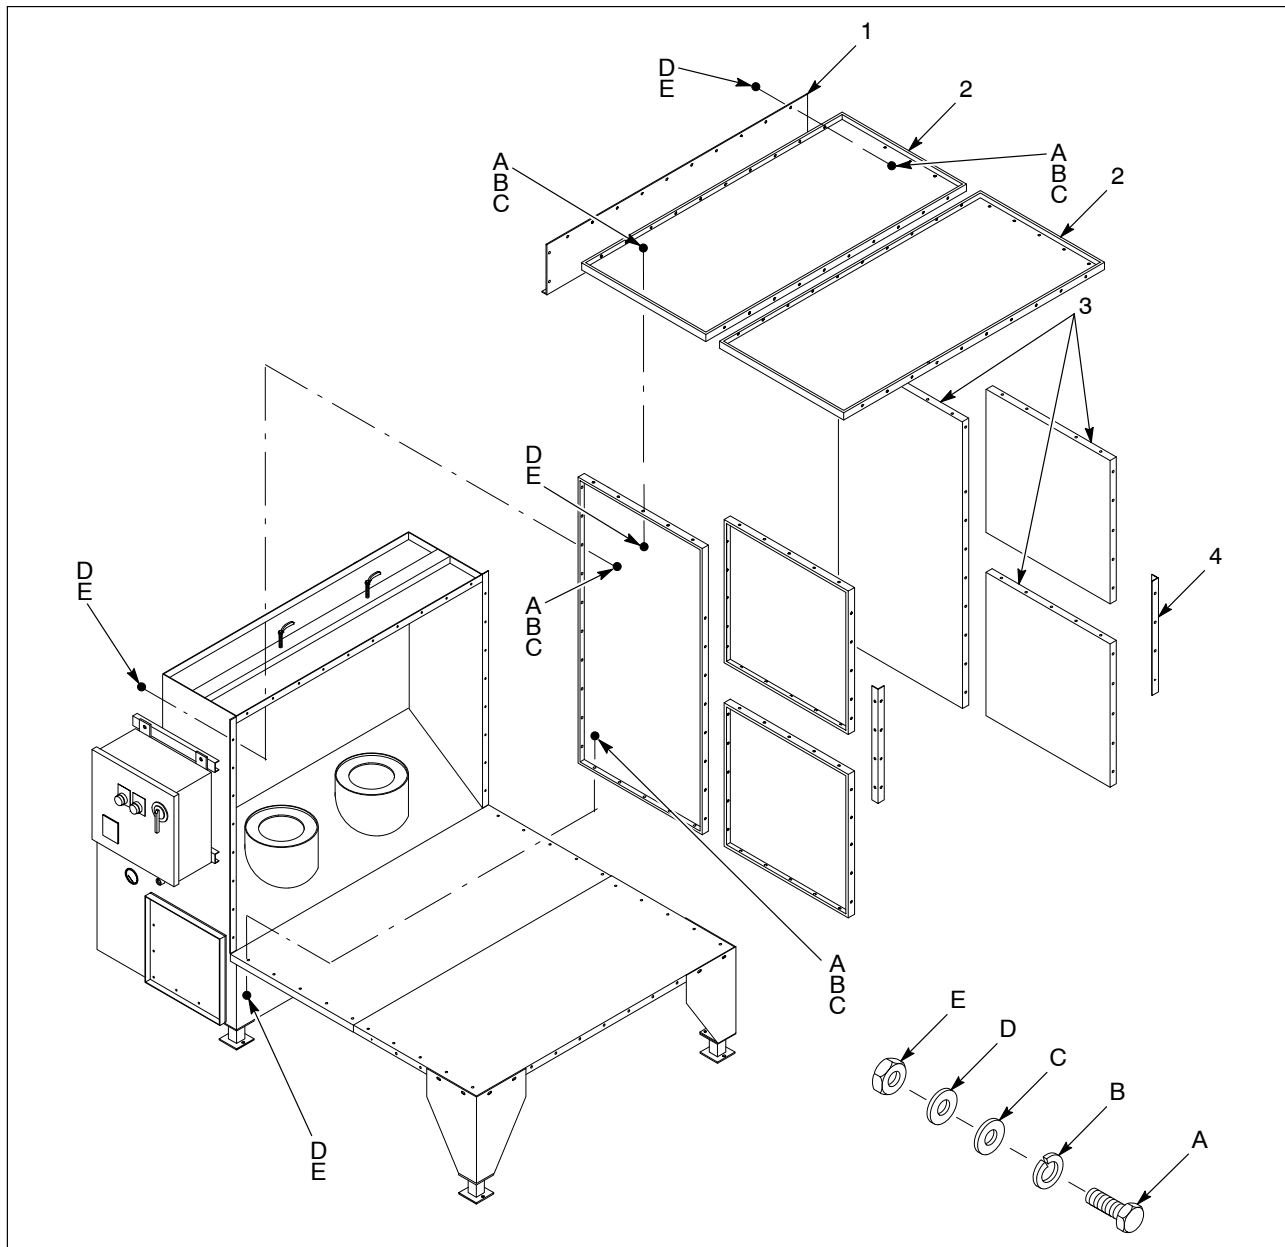

Figure 3-3 Stainless Steel Enclosure Assembly
- a. See Figure 3-3.  $\frac{3}{8}$ -16 nylon hex bolts (A) and nylon nuts (B) for joining polypropylene panels and attaching them to the collector module and floor panels.
1. See Figure 3-3. Use the fasteners shown to bolt the side panels (3) to the floor panels, to each other, and to the collector module.
2. Bolt the back panel (1) to the side panels and to the collector module.
3. Bolt the roof panels (2) to the side panels.
4. Bolt the angles (4) to the front edge of the side panels. Overlap the joint between the upper and lower panels evenly.